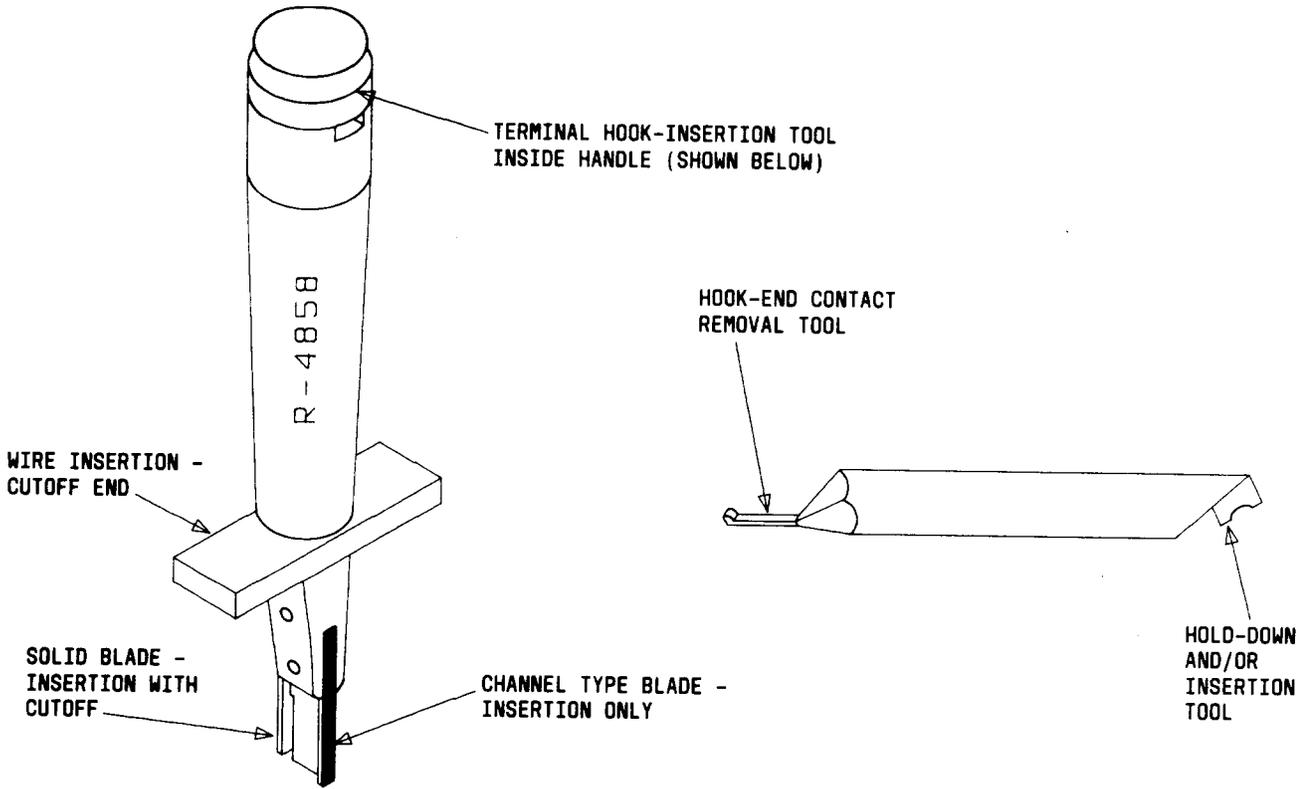

Fig. 7—R-4858 (Amp No. 266187-1) Repair Tool
- 4.02 The R-4858 (Amp No. 266187-1) repair tool is used for these procedures and is illustrated in Fig. 7. This is a double-ended tool containing a hook-type device on one end to remove damaged contacts. The other end contains a device for inserting a new terminal or holding a contact in place while removing a wire.